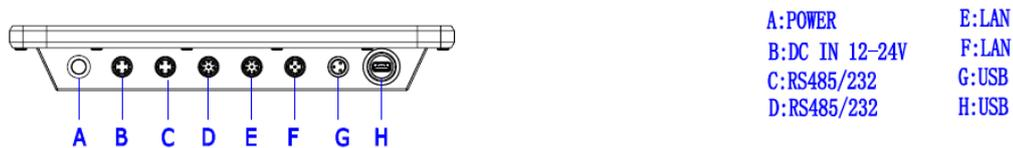

Figure 2-5 IO interface of WPxxx1T-C
Step 1: Locate the RJ-45 connector on the bottom panel of the WPxxx1T-C (see Figure 2-5).
Step 1: Locate the DB-9 connector on the rear panel of the WPxxx1T-C (see Figure 2-5).
Step 1: Located the USB connectors on the rear panel of the WPxxx1T-C (see Figure 2-5).